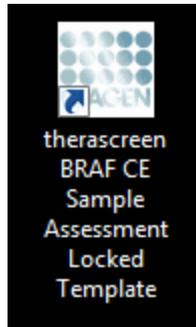

Figure 2. The “*therascreen* BRAF CE Sample Assessment Locked Template” icon.
- Start the Rotor-Gene Q series software by double clicking the “*therascreen* BRAF CE Sample Assessment Locked Template” icon on the desktop of the laptop connected to the Rotor-Gene Q MDx instrument (see Figure 2).